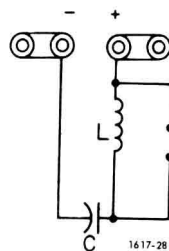

Figure 4-8. Inductance measurement by the series-substitution method.
- Connect the inductor and the capacitor in series (Figure 4-8) to the bridge.